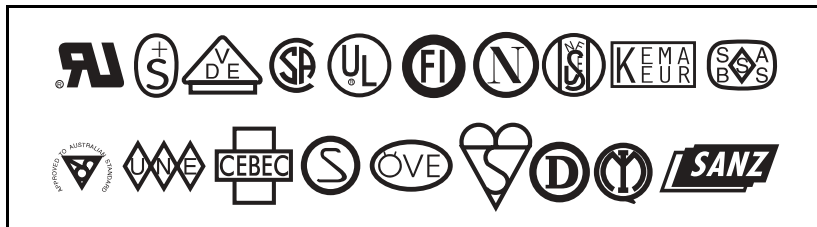

Figure 35
- The AC power plug and IEC 320 connector must bear the certification mark of at least one of the known international safety organizations shown in Figure 35.